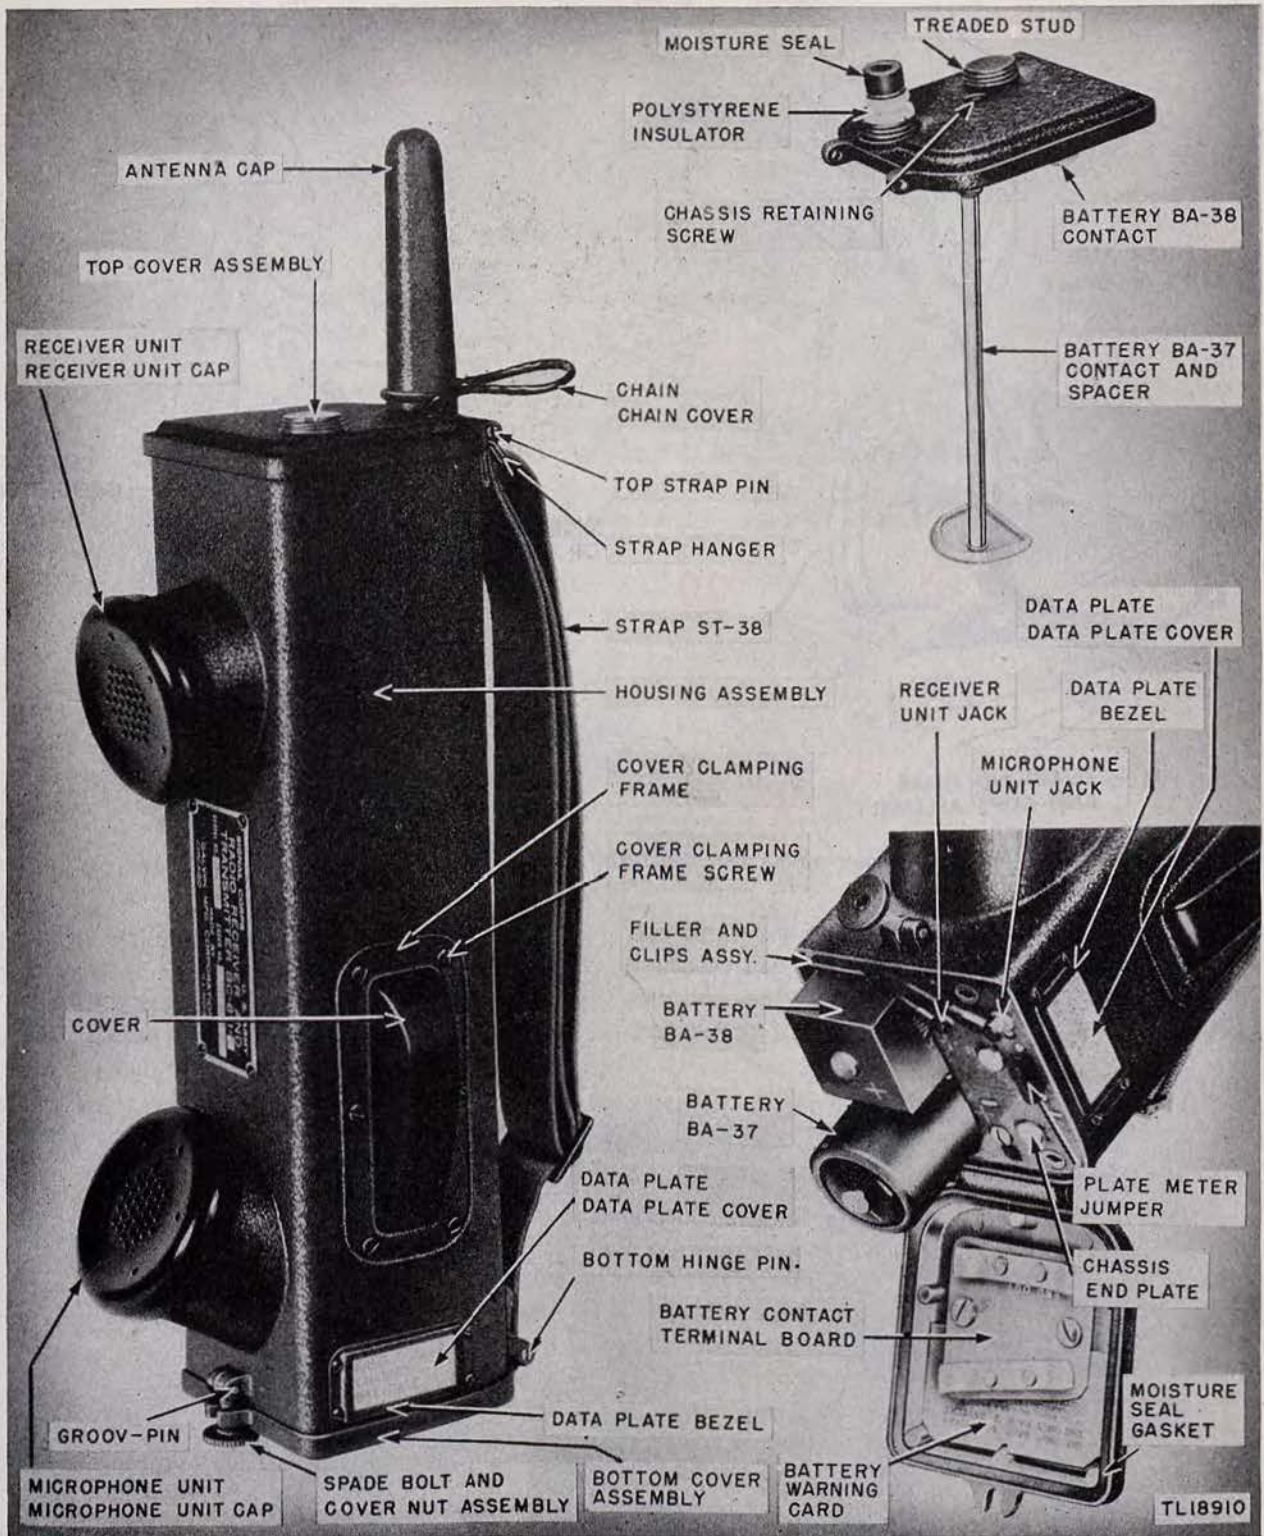

Figure 13. Location of parts, Radio Receiver and Transmitter BC-611-(*).
a. BATTERY. Open bottom cover of set by unscrewing the knurled nut of the spade bolt and cover nut assembly. Remove both batteries. (If batteries do not come out easily, they may be pushed out of housing after removal of chassis and top cover.) (See fig. 13.)
and receiver (earphone) unit lead from chassis end plate jacks. Remove data plate, and data plate cover from housing by sliding out toward the bottom of housing when bottom cover is open. (See fig. 13.) Unscrew chassis retaining screw on top cover of housing and slide chassis out of housing. (If chassis does not come out easily, it may be pushed out after removing top cover.)